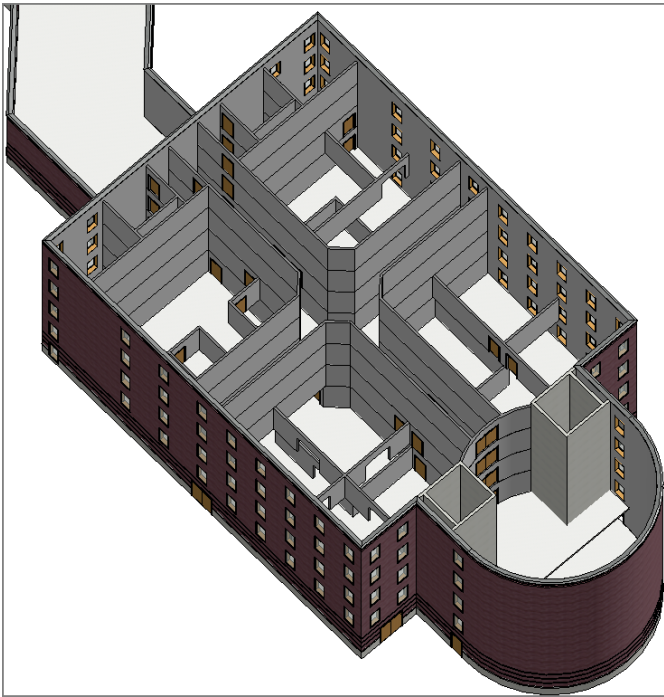

FIGURE 6.31: The walls on the floors above
3. Go to the default 3D view, as shown in Figure 6.31.